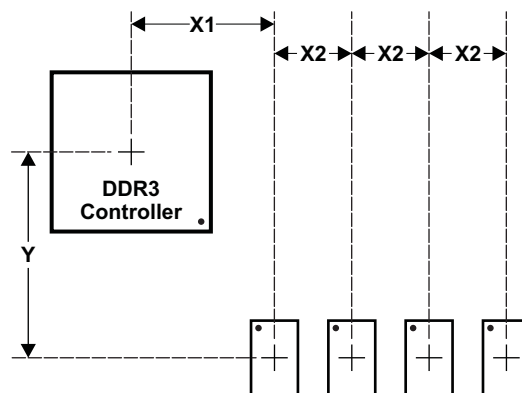
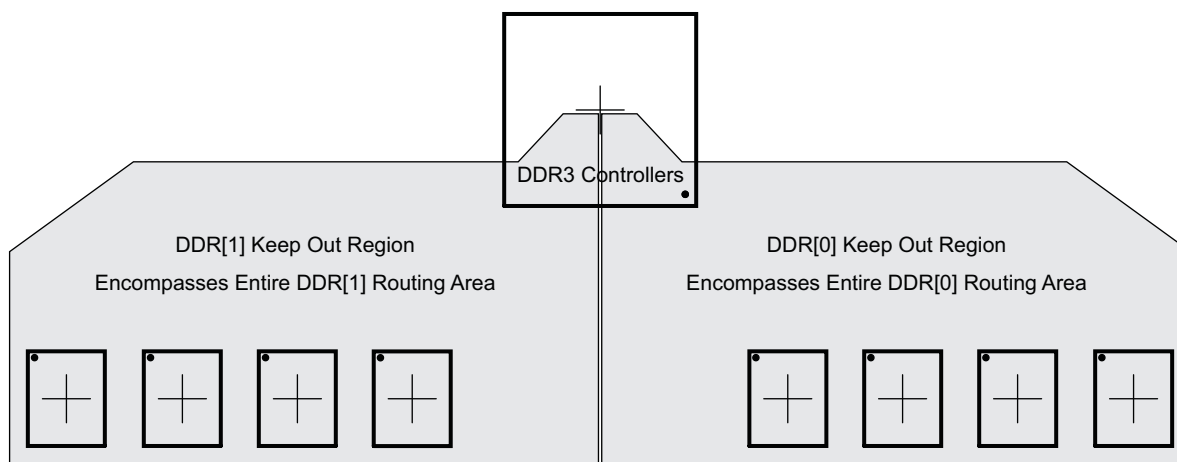

Figure 8-58. Placement Specifications
Figure 8-59. DDR3 Keepout Region
Figure 8-58 shows the required placement for the MPU as well as the DDR3 devices. The dimensions for this figure are defined in Table 8-67. The placement does not restrict the side of the PCB on which the devices are mounted. The ultimate purpose of the placement is to limit the maximum trace lengths and allow for proper routing space. For a 16-bit DDR memory system, the high-word DDR3 device(s) are omitted from the placement.
- (1) For dimension definitions, see Figure 8-58.
- (2) Measurements from center of MPU to center of DDR3 device.
- (3) Minimizing X1 and Y improves timing margins.
- (4) w is defined as the signal trace width.
- (5) Non-DDR3 signals allowed within DDR3 keepout region provided they are separated from DDR3 routing layers by a ground plane.
- (6) Note that DDR3 signals from one DDR3 controller are considered *non-DDR3* to the other controller. In other words, keep the two DDR3 interfaces separated by this specification.
The region of the PCB used for DDR3 circuitry must be isolated from other signals. The DDR3 keepout region is defined for this purpose and is shown in Figure 8-59. The size of this region varies with the placement and DDR routing. Additional clearances required for the keepout region are shown in Table 8-67. Non-DDR3 signals should not be routed on the DDR signal layers within the DDR3 keepout region. Non-DDR3 signals may be routed in the region, provided they are routed on layers separated from the DDR signal layers by a ground layer. No breaks should be allowed in the reference ground layers in this region. In addition, the 1.5-V DDR3 power plane should cover the entire keepout region. Also note that the two DDR3 controller's signals should be separated from each other by the specification in Table 8-67, item 5.